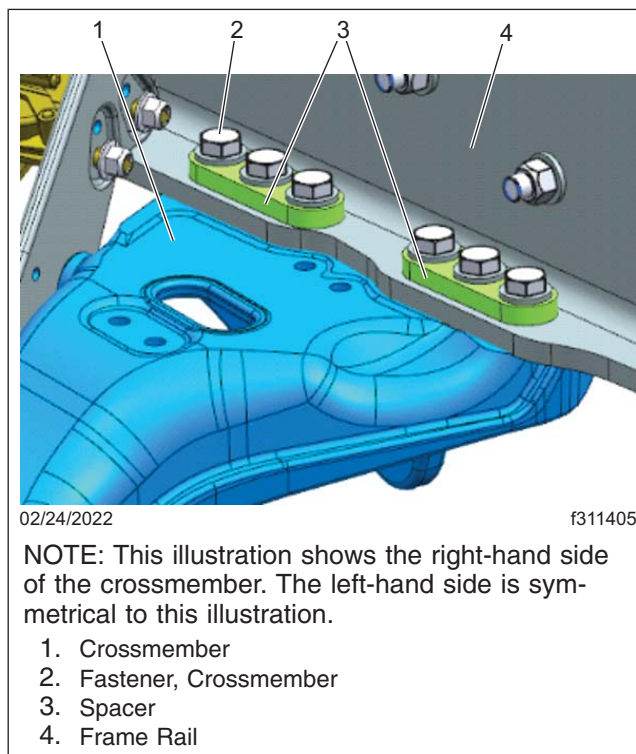

Fig. 2, Spacers Installed on the Crossmember
19. At the left-hand side of the vehicle, install the spacer between the crossmember fasteners and the crossmember as follows. See Fig. 2.
42. At the right-hand side of the vehicle, install the spacer between the crossmember fasteners and the crossmember as follows. See Fig. 2.